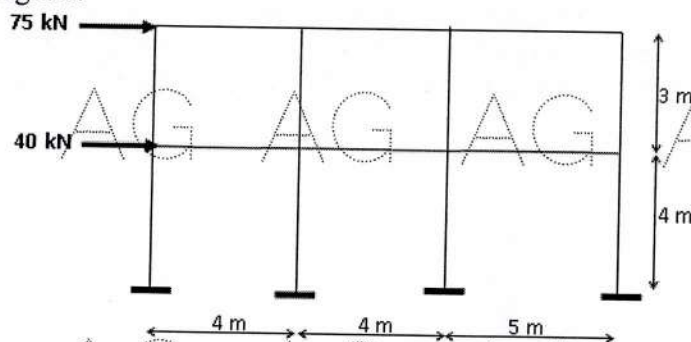

Figure 3
5. Using Portal method, analyze the plane frame shown in figure 3. And draw the bending moment diagram. [15]